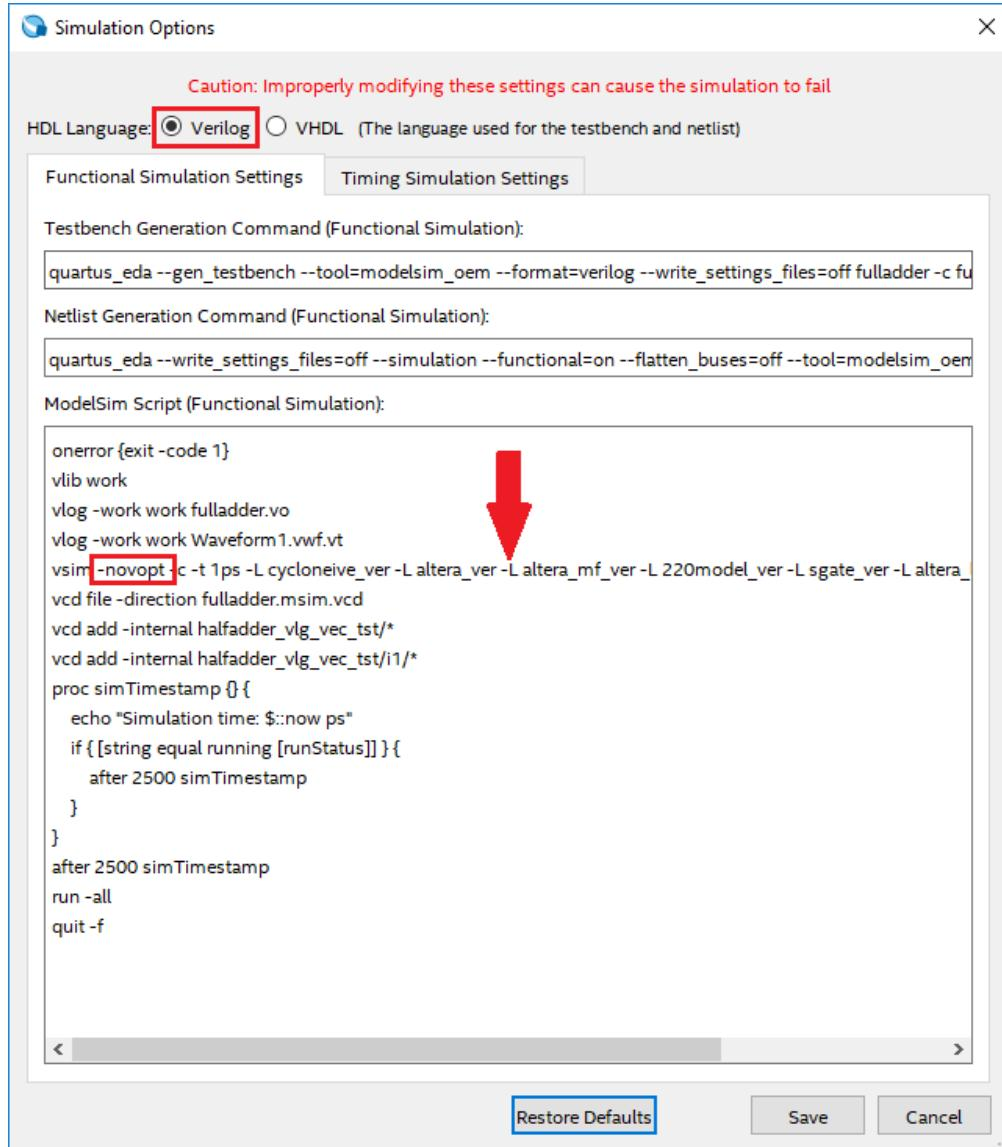

Figure 5.10: Simulation Settings
3. On the **Functional Simulation Settings** tab, locate the line "**vsim -novopt -c**" inside the **ModelSim Script (Functional Simulation)** pane. See Figure 5.10.